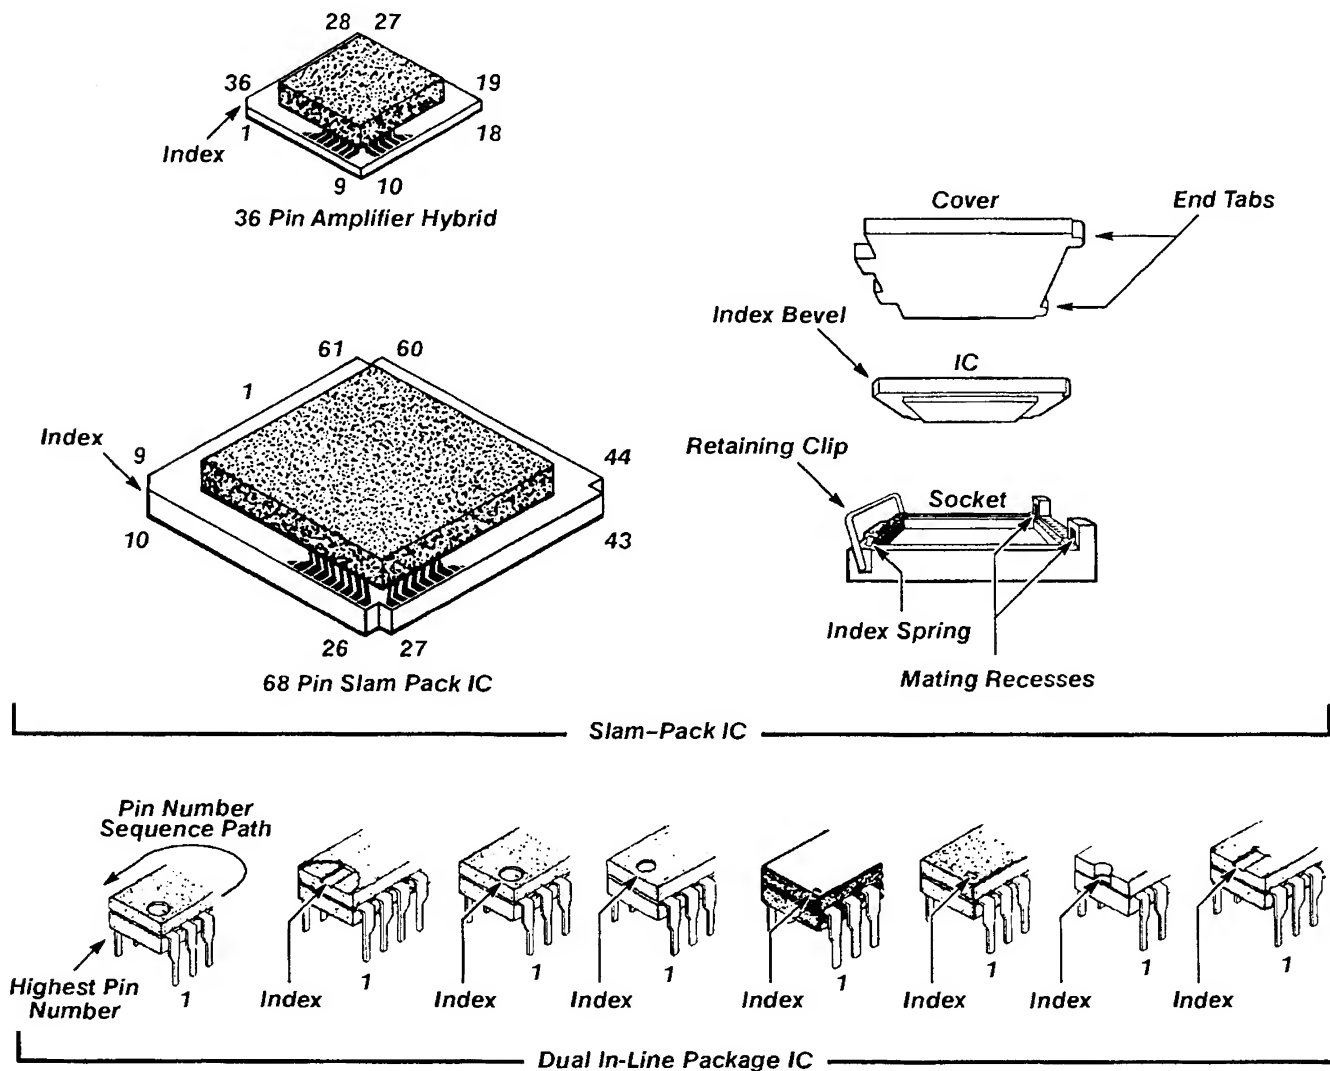

Figure 3-14 — Semiconductor Indexing Diagram
- ☐ Step 2: Align the IC index slot with that of the socket. (Fig. 3-14 gives an illustration of this indexing.)